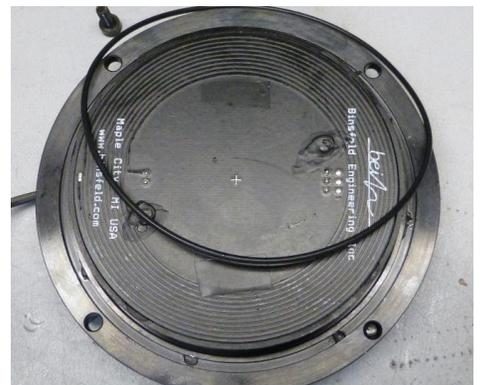

Fig. 3 - Stator Plate with Electronics
9. Install customer's stationary assembly (stator) housing if not already installed. (Fig. 3)